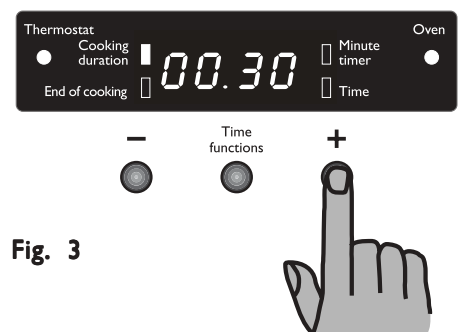

Fig. 3
1. Press button "+" or "−" (Fig. 3).